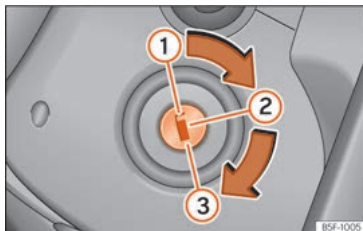

Fig. 251 Ignition key positions.
If the engine does not immediately start up, interrupt the starting process and try again after 30 seconds. To start the engine again, return the key to position **Fig. 251 ①**.
- Turn the ignition key to position  **>>> Fig. 251 .**
- Remove the key from the ignition in position **>>> Fig. 251  .**